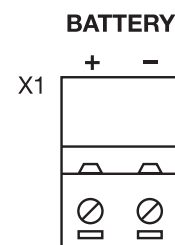

Figure 7
- The unit is equipped with a 12Vdc battery back-up power circuit. If this option is required connect the + and - (positive and negative) battery leads (leads not supplied) (fig 7).